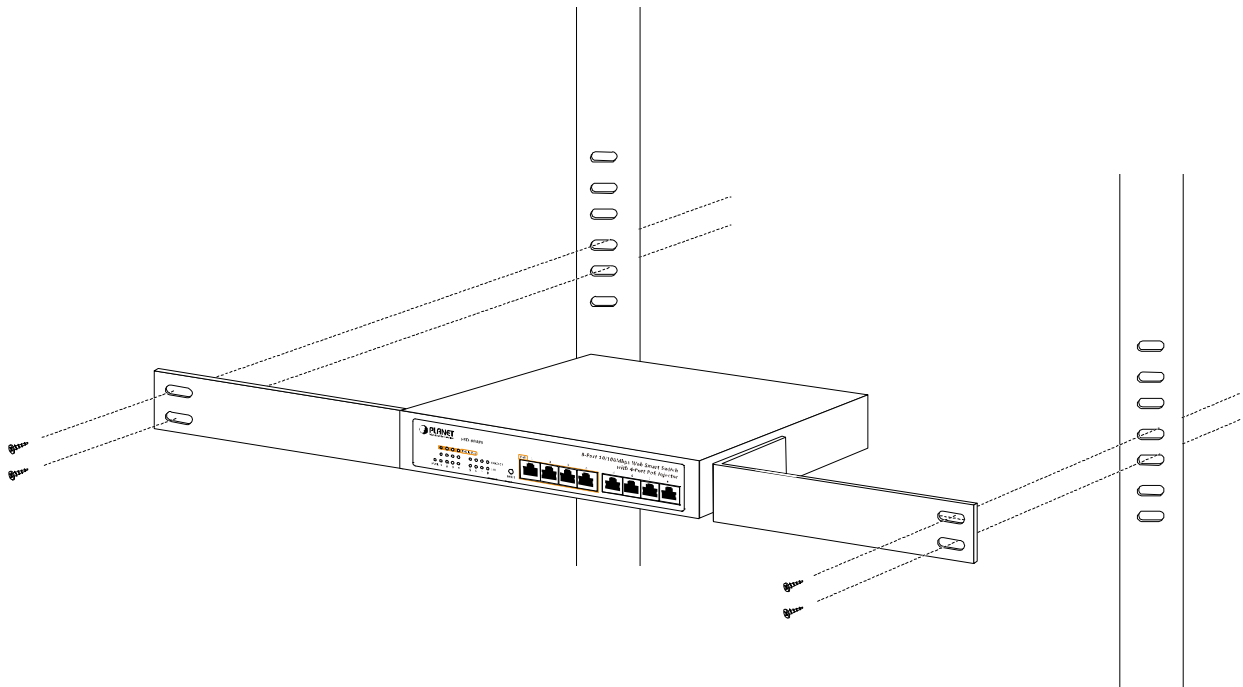

Figure 2-5 Mounting the Switch in a Rack
**Step5:** After the brackets are attached to the Switch, use suitable screws to securely attach the brackets to the rack, as shown in Figure 2-5.